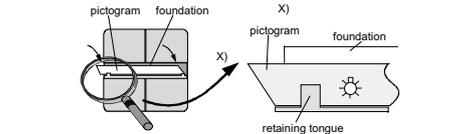

Figure 6
- Insert labels (figure 6)**
- Affix labels on the labeling base (figure 6).